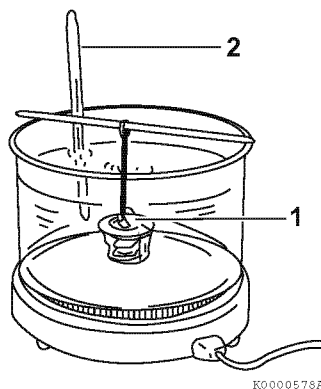

Fig.40-18
- 1 - Check for proper operation of the thermostat. Place the thermostat (1, Fig.40-18) and an accurate thermometer (2, Fig.40-18) into warm water.